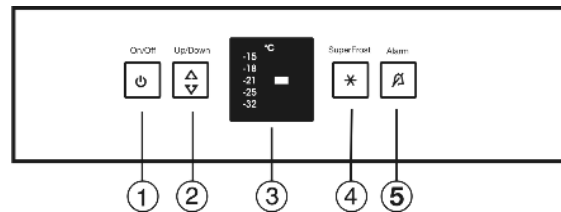

Fig. 2
- ▶ Press On/Off button *Fig. 2 (1)*.
The audible alarm is automatically silenced, the alarm button *Fig. 2 (5)* goes out and the temperature display stops flashing when the temperature is sufficiently cold again.
- ▶ Press alarm button *Fig. 2 (5)*.